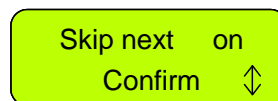

Figure 2.10
1. **Shortcut** – when the mower is in the Base Station press the **'STOP'** key first to display the right display (figure 2.10).